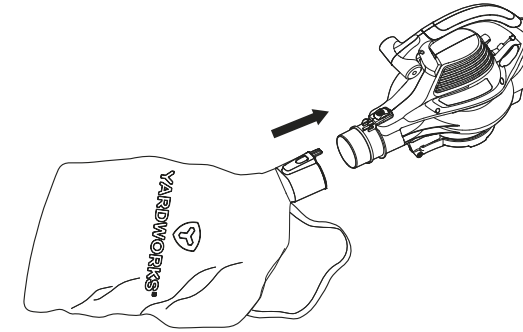

Fig. 5
- Add collection bag by simply aligning the plastic connector sleeve on the bag to the blower exhaust. (Fig. 5)